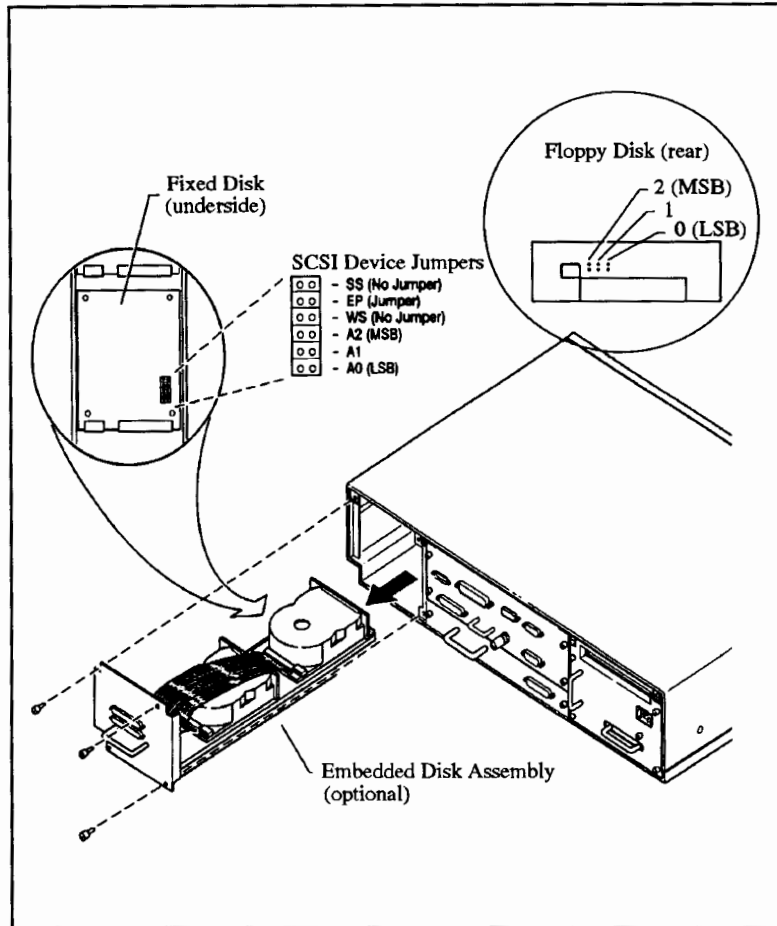

Figure 5-5. Embedded Device Removal
- 2). Remove the SCSI device tray assembly from the System Unit cabinet as shown in Figure 5-5.
- 4). Remove the SCSI device tray assembly from the System Unit cabinet as shown in Figure 5-5.